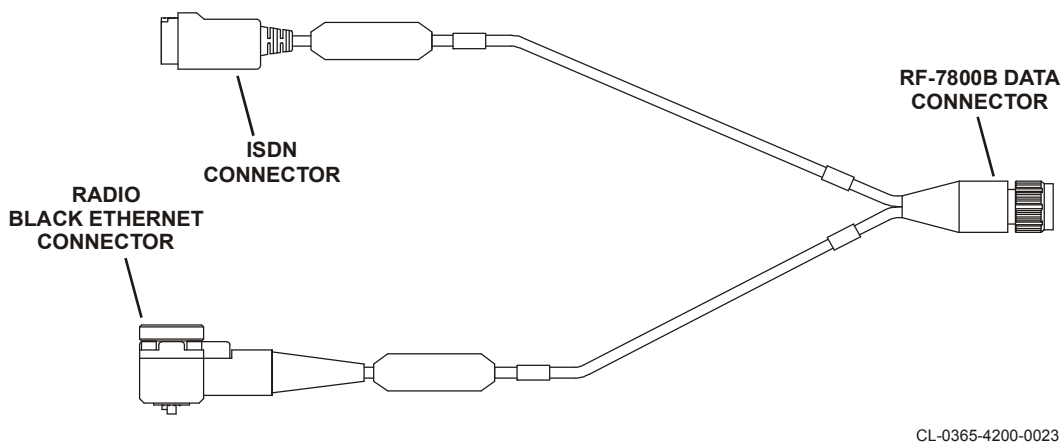

Figure 3-8. BGAN to Radio Black Ethernet and ISDN Cable, 12043-0831-A006 (Optional)
- See Figure 3-8 for BGAN to Radio Black Ethernet and ISDN Cable, 12043-0831-A0xx (optional).